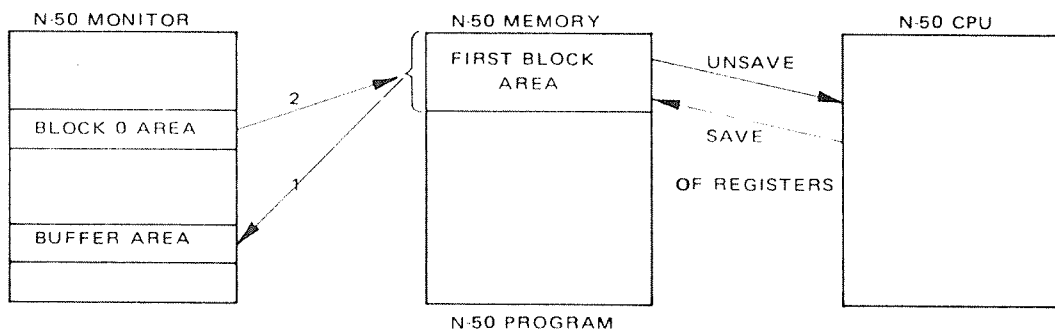

Figure 6.2: Data Transfer for UNSAVE/SAVE of the NORD-50 Register Contents (see Section 1.2)
2. Then, the first block of the NORD-50 program is transferred to the buffer area in the NORD-50 Monitor for saving, and block in the NORD-50 Monitor data area is transferred to the NORD-50 program area (refer to Figure 6.2).
3. NORD-50 is then started for execution of the unsave routine. (Refer to Figure 6.2.) The unsave routine transfers the right contents from the register block area to the NORD-50 CPU registers before the NORD-50 program can be executed (see also Figures 5.1 and 6.1 and Section 6.2.2).